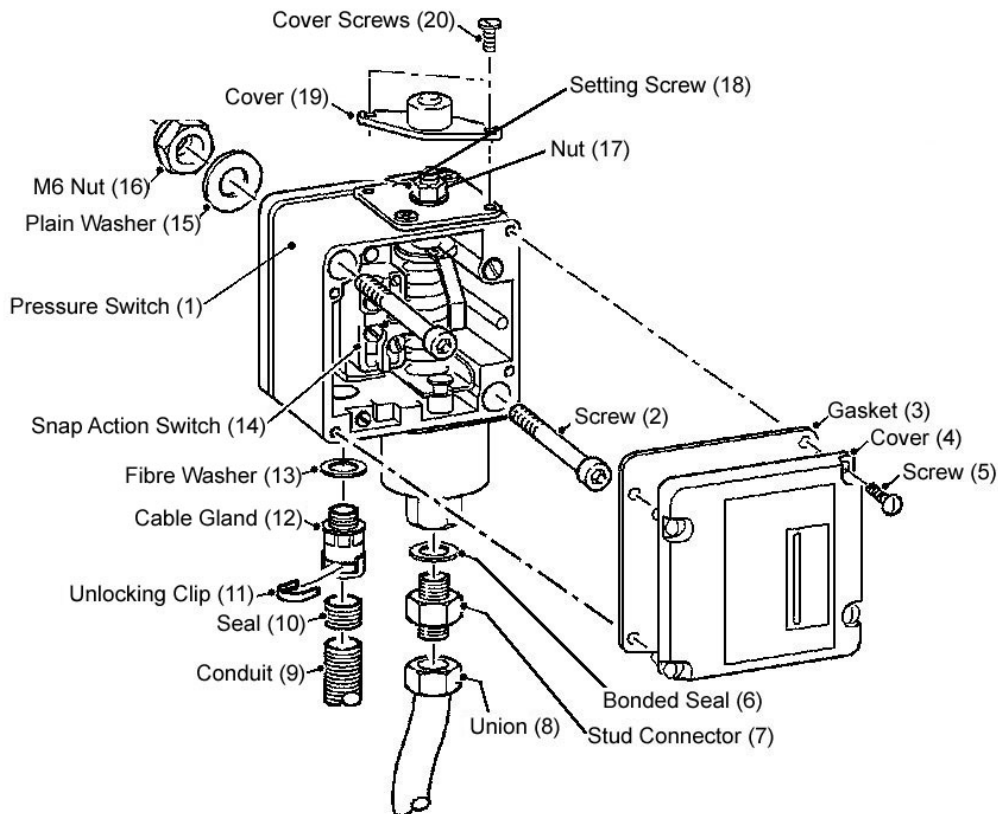

Figure 1: Typical View of Pressure Switch
2. Remove the pressure switch as follows: (see Figure 1)